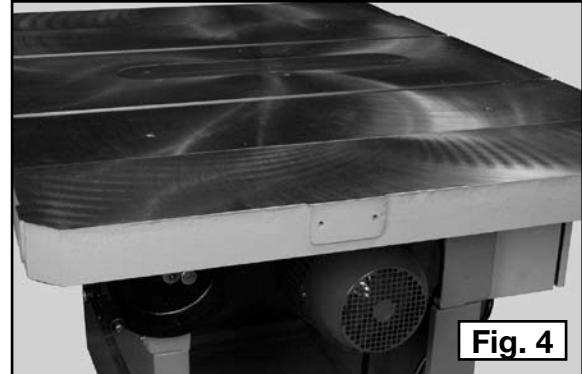

Fig. 4
This machine is supplied with two table extension wings. Attach the extension wing with the two tapped holes (A) Fig. 4 to the right side of the machine.